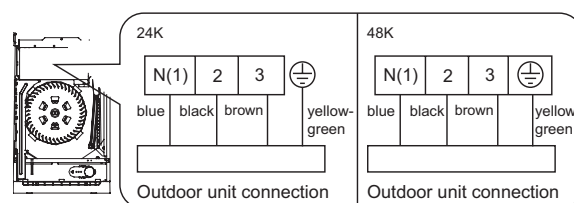

Fig.12
2. Remove the wire clip; connect the power connection wire to the wiring terminal according to the color; tighten the screw and then fix the power supply wire, power connection wire with wire clip. (As show in Fig.12)